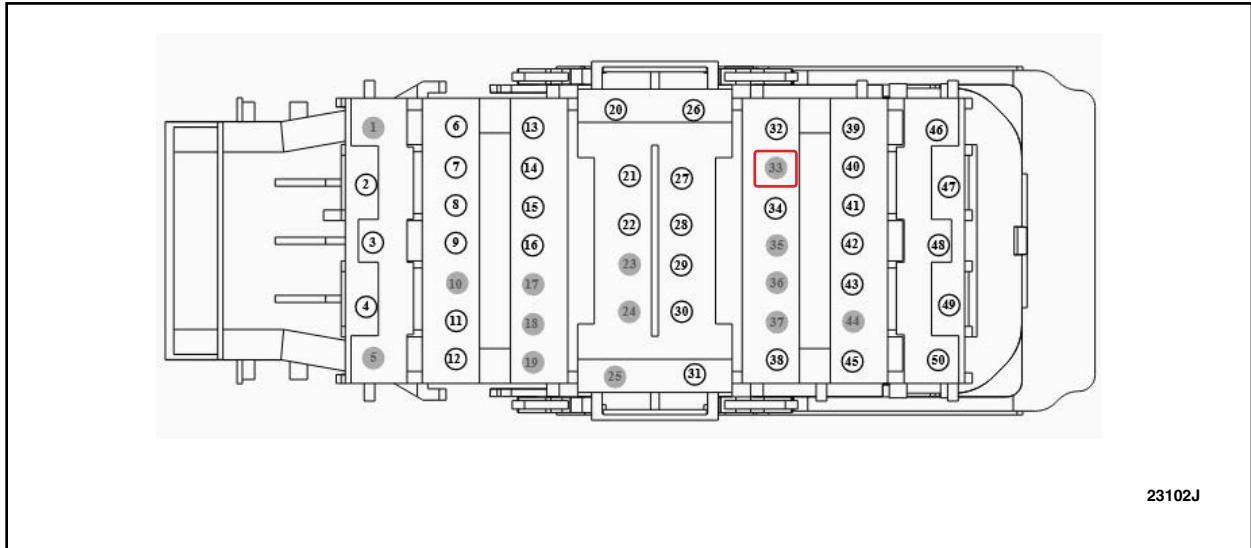

FIGURE 9
12. Identify Cavity 33 in the connector. This should be an empty cavity. See Figure 9.